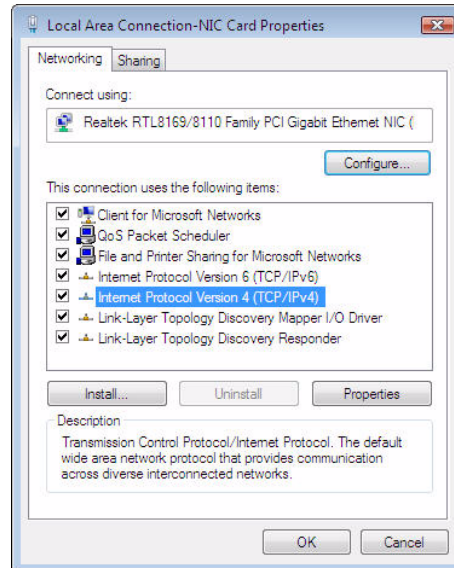

Figure 70: Local Area Connection Properties - Windows Vista
3. Right-click the Local Area Connection-NIC Card icon that represents the terminal network connection and select Properties. The Local Area Connection-NIC Card Properties dialog appears as shown in Figure 70.